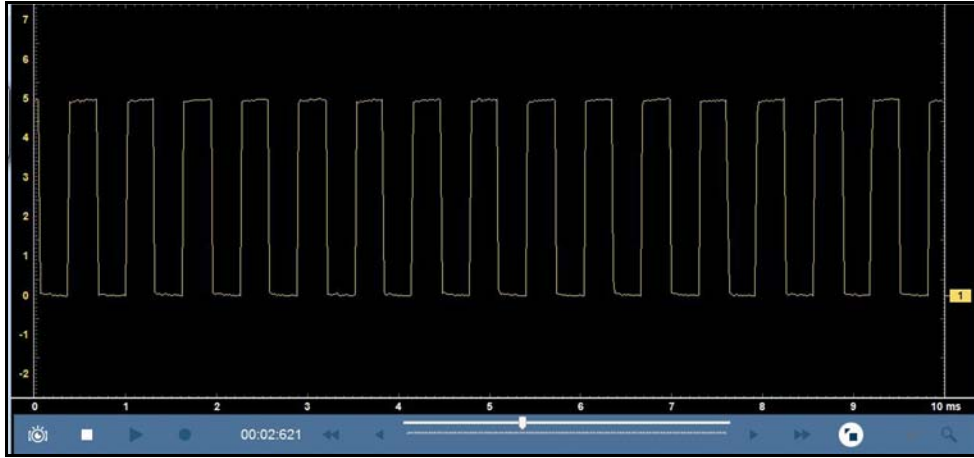

Figure 9-28
- **Control Panel Off**— the control panel is not displayed, only the meter screen is shown (Figure 9-28)